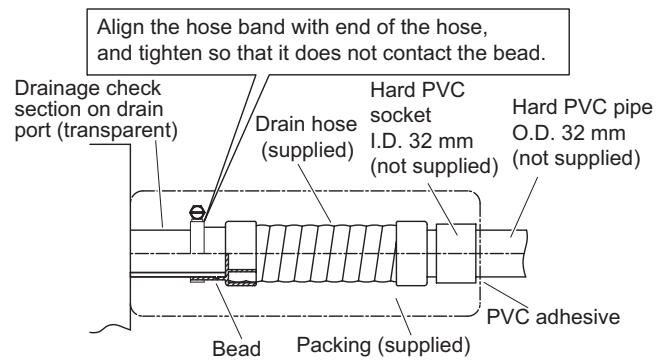

Fig. 2-133
- (1) Prepare standard hard PVC pipe (O.D. 32 mm) for the drain and use the supplied drain hose and hose band to prevent water leaks. The PVC pipe must be purchased separately. The unit's transparent drain port allows you to check drainage. (Fig. 2-133)
- Insert the drain pipe until it contacts the socket, as shown in Fig. 2-133, then secure it tightly with the hose band.
- Tighten the hose clamps so their locking nuts face upward. (Fig. 2-133)